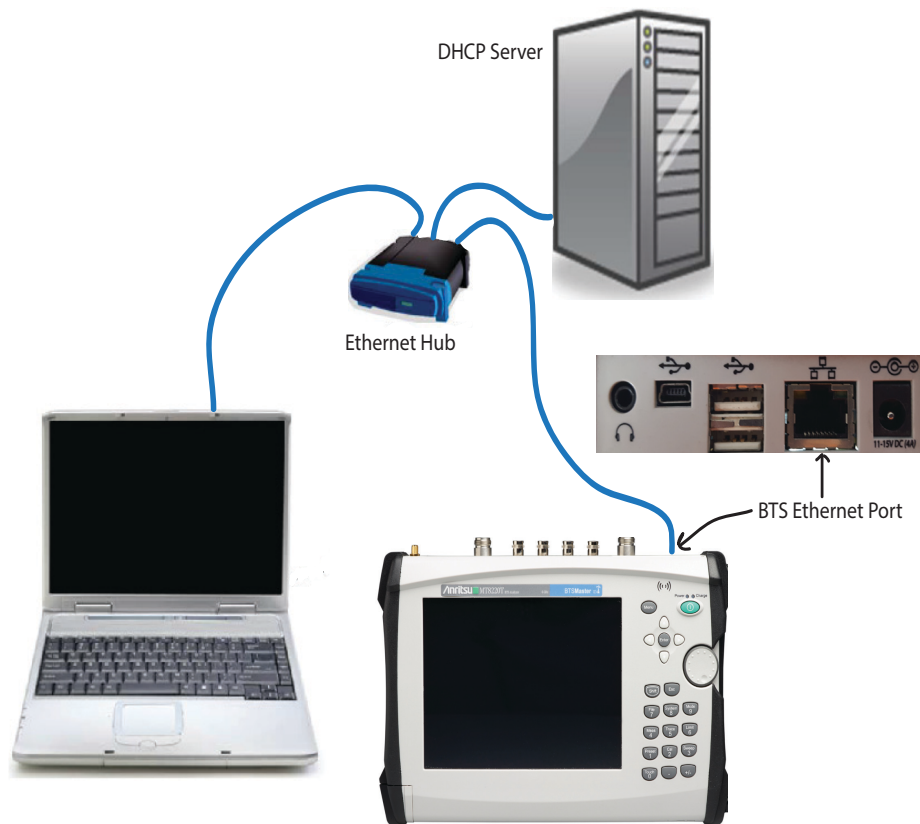

Figure 2-2. Ethernet Hardware Setup
1. Connect the computer and instrument to a LAN which is connected to a DHCP server. See Figure 2-2.